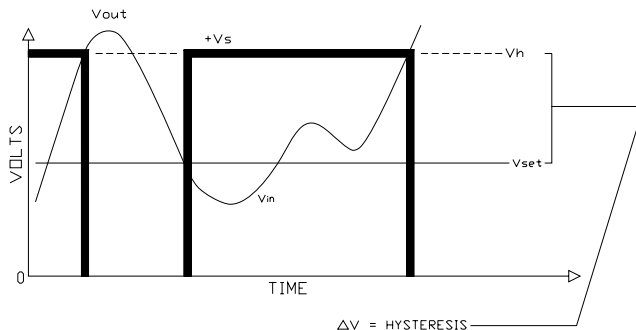

FIGURE 15.
(1) Impedance into non-inverting input drops to 120k ohm for negative input signals if the hysteresis pot is connected externally as shown in Figure 15.
Hysteresis can be varied externally by two means: (1) Putting a resistor between pins 2 and 14, or (2) Connecting a potentiometer divider between pins 2 and 14 as shown in Figure 15. Using either method, the response of a Model 540 with V_{in} connected to +IN, V_{set} to -IN, and the output connected for current sinking, is shown in Figure 15. The voltage V_T at which the unit trips will be within ± 10 mV of the set voltage V_{set} . The hysteresis voltage will be approximately
With a potentiometer divider as shown in Figure 15, the hysteresis is approximately